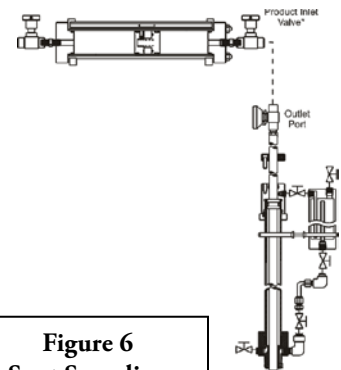

Figure 6
2. After pre-charging the cylinder above pipeline pressure (see Section 2.2), connect the product inlet valve of the cylinder to the sampler outlet port (see Figure 6).